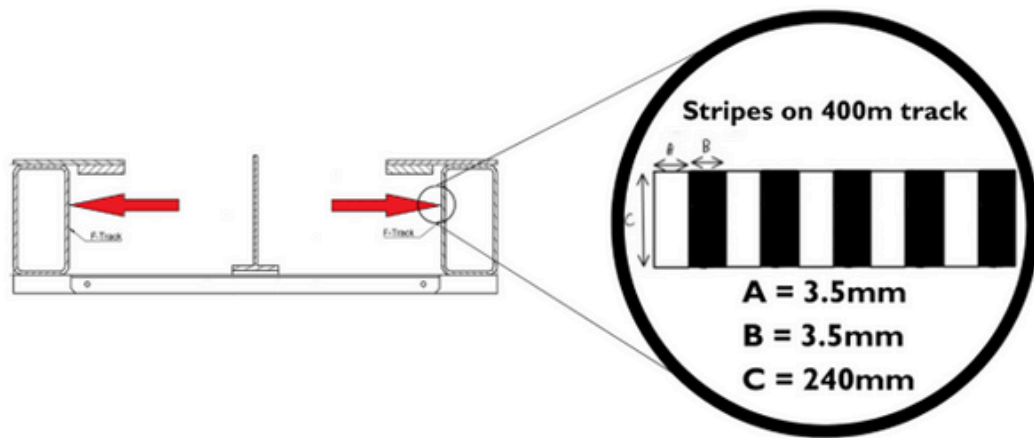

Figure 4: Stripes along the length of the track (red arrow indicates the location)
- Vertical sections of the F-track are painted along the length with black and white stripes (figure 4) for the encoder to measure the speed of the pod.